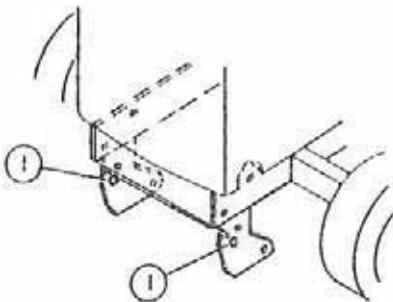

FIGURE 5
NOTE: On lawn tractor: if you do not have a $13/16"$ dia. hole on front frame brackets (fig. 5, item 1), replace the brackets with the ones supplied in kit (page 12, ref. 14 and 19).
- b) Lift the front portion of subframe between the tractor mounting plates (fig. 5, item 1) and hold in place with $3/4" \times 13.50"$ pin. Secure the pin with 3mm hair pins.